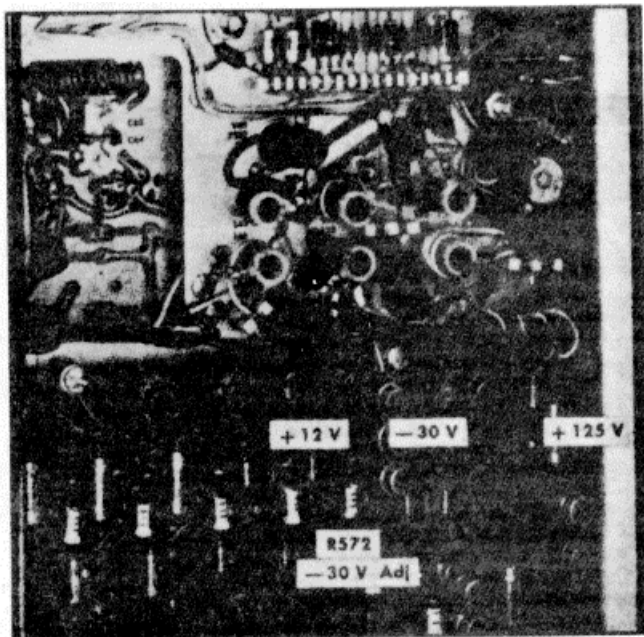

Fig. 6-4. Voltage test points and adjustments.
- b. Connect the dc voltmeter from the -30 volt supply, pin C on the power board to chassis ground. See Fig. 6-4.
- c. Adjust R572, the -30 volt adjustment (Fig. 6-4), for -30 volts.